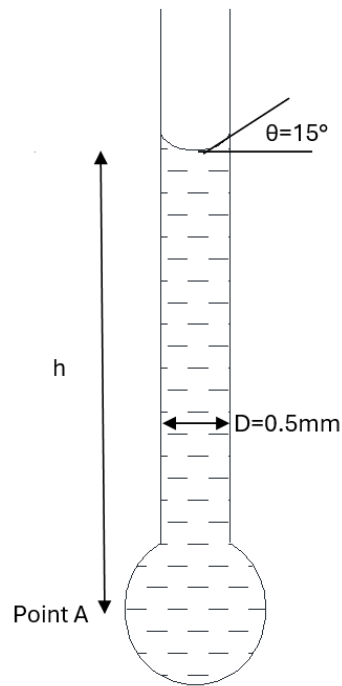

Figure 1 (a)
1. (a) A tube containing water is used by a researcher to measure pressure at point A, as shown in Figure 1 (a). Calculate the water height, h , and water pressure at point A. Take surface tension $\sigma = 0.072 \text{ N/m}$, angle of contact $\theta = 15^\circ$, tube diameter, $D = 0.5 \text{ mm}$, and water density, $\rho = 1000 \text{ kg/m}^3$.